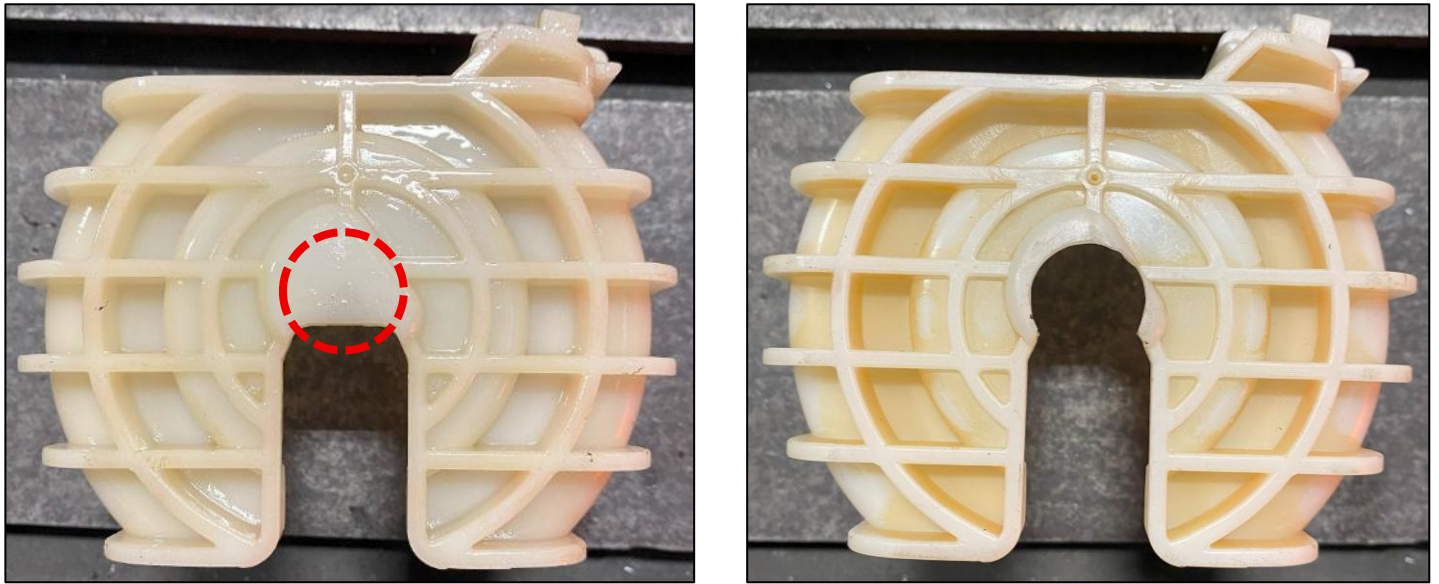

Figure 18
10. Using a Dremel, carefully cut out the center of the Bottom Piece of the Fuel Basket. *Figure 18.*